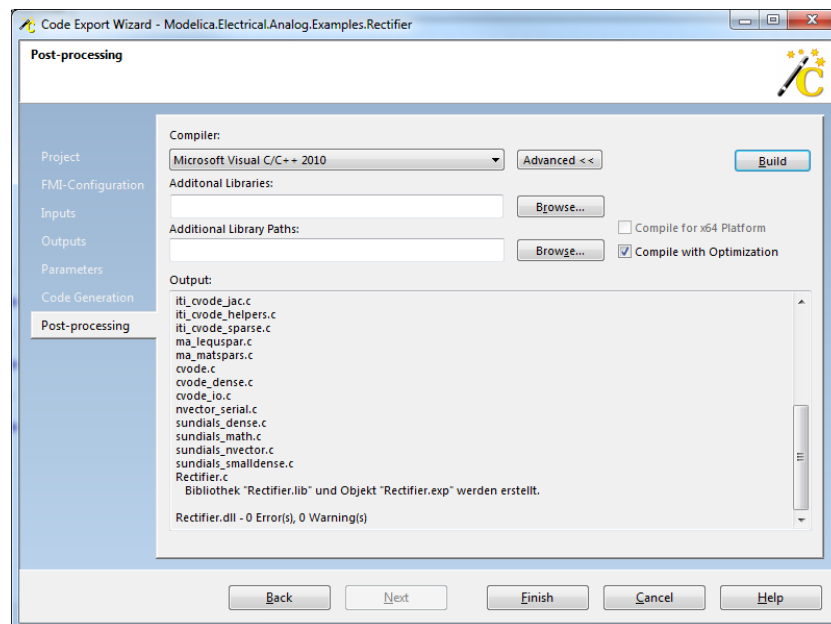

Figure 5: Post-Processing page of Code Export after build process has finished.
14. In the Post-Processing Tab, the actual FMU will be generated. Choose compiler “Microsoft Visual C/C++ 2010” and hit “Built”. The code will be generated and the output window will show the progress. Two build routines will run since the FMU is supposed to be compatible to both win64 and win32 platforms. After the build process has completed, the output according to Figure 5 will show up. Hit finish.